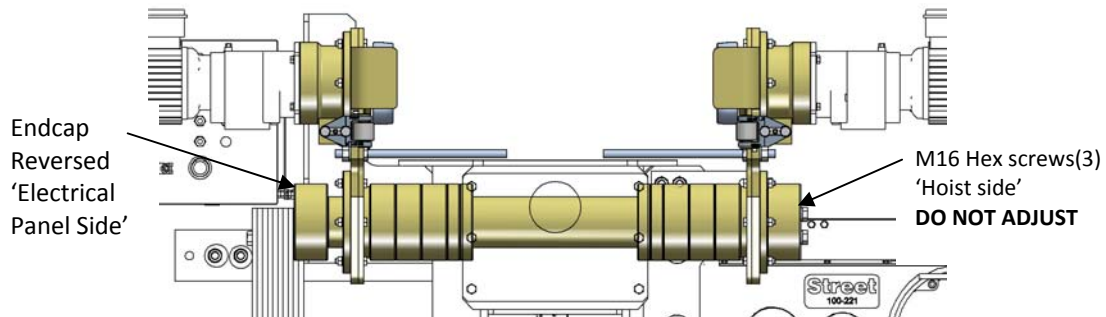

Figure 27 – Endcap reversed and refitted
- Refit the Endcap but in reverse, see Figure 27 below, tighten the M16 Hex screws (3), torque 20Nm. This gives space on the axle to allow the Trolley Plates to be positioned wider than the beam flange.